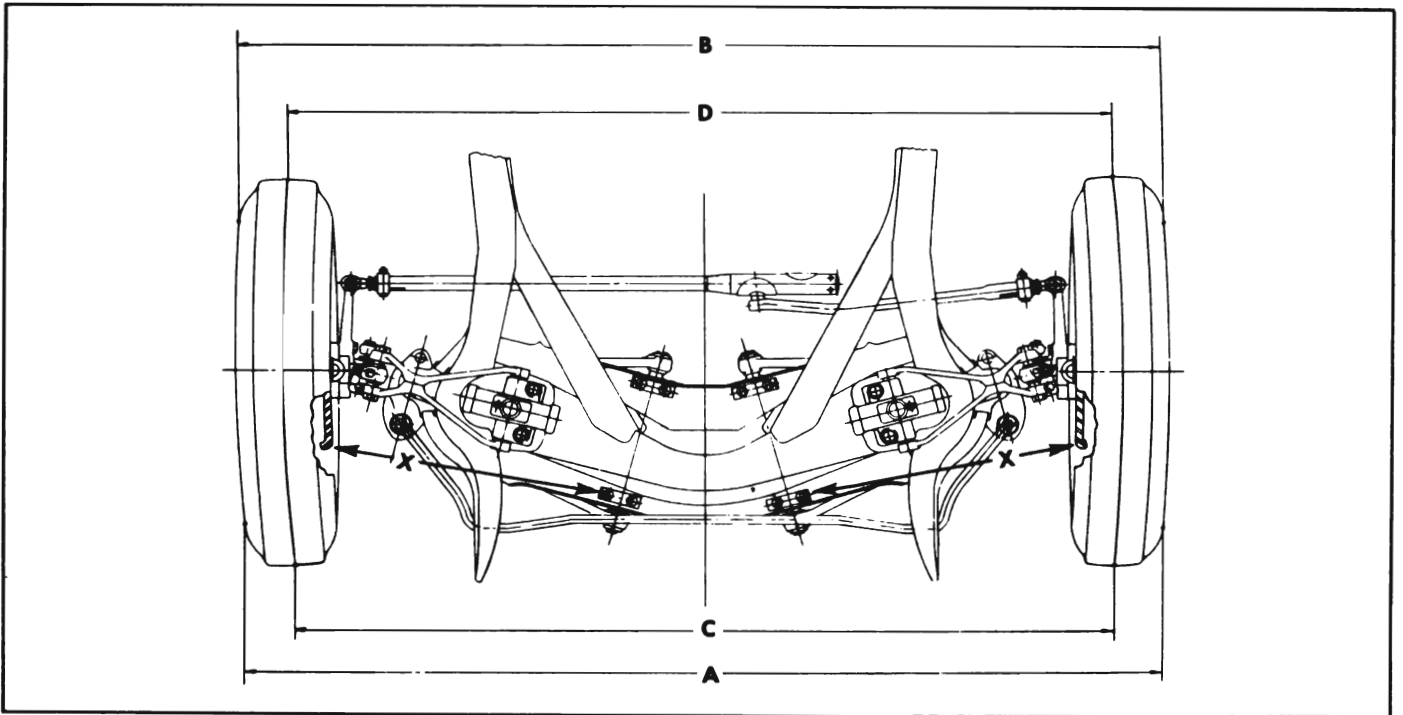

Figure 6-34—Front Wheel Toe-in
on each side. Adjust tie rods, if necessary, to make measurements equal on both sides. See figure 6-34 dimensions "X."
3. Using a suitable toe-in gauge, measure the distance between outside walls of tires at the front at approximately 10" from the floor. See figure 6-34 dimension "A." Mark points where gauge contacts tires. **NOTE:** An accurate check also can be made by raising and rotating front wheels to scribe a fine line near the center of each tire, then, with tires on the floor and front spring trim height correct, measure between scribed lines with a suitable trammel. See figure 6-34, dimension "C."
4. Roll the car forward until measuring points on tires are approximately 10" from the floor at the rear, and measure the distance between points used in Step 3 above. The measurement at the front (dimension "A" or "C") should be  $\frac{1}{16}$ " to  $\frac{1}{8}$ " less than the measurement at the rear (dimension "B" or "D"). See figure 6-34.